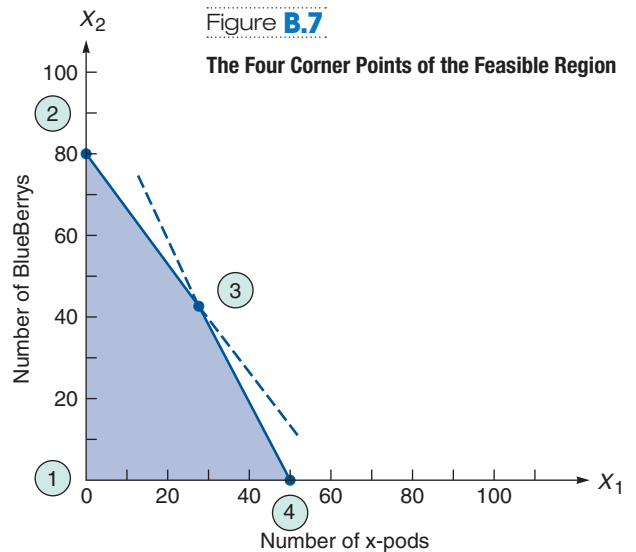

Figure B.7
Once again we can see (in Figure B.7) that the feasible region for the Glickman Electronics Company problem is a four-sided polygon with four corner, or extreme, points. These points are labeled ①, ②, ③, and ④ on the graph. To find the  $(X_1, X_2)$  values producing the maximum profit, we find out what the coordinates of each corner point are, then determine and compare their profit levels. (We showed how to find the coordinates for point ③ in the previous section describing the iso-profit line solution method.)